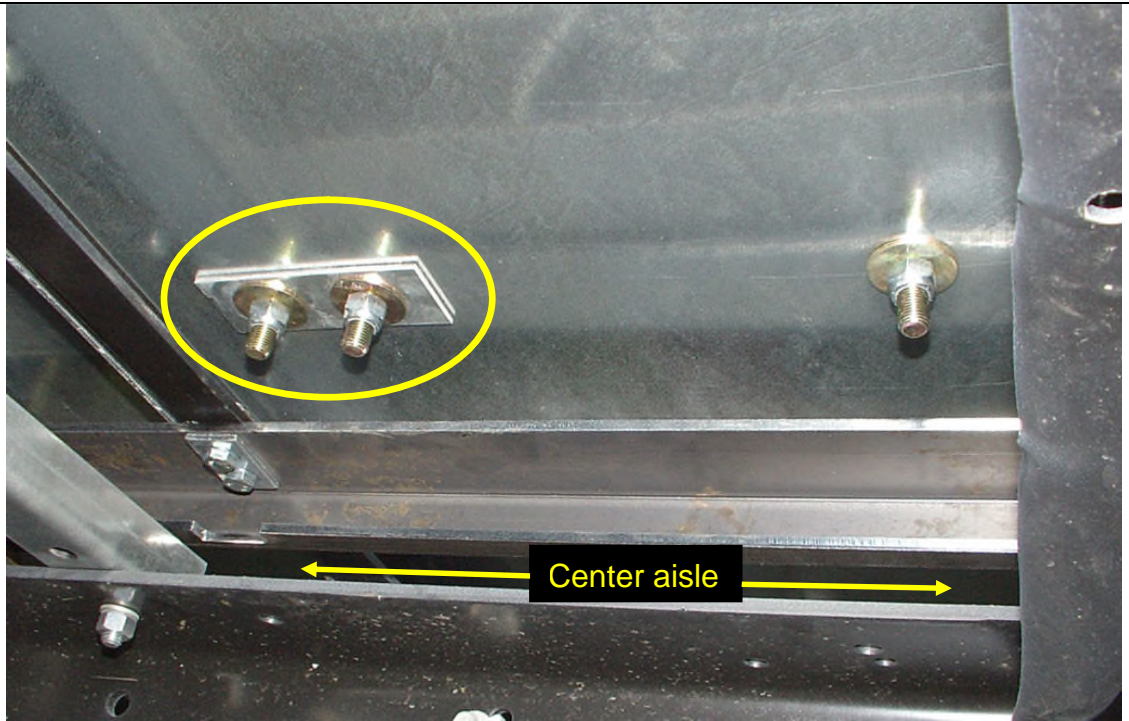

Figure 1: View from underside the floor – Rear bolts of a rigid seat
1. Find the two (2) rear mounting bolts of each rigid seat (figure 1) and remove the two nuts, flat washers and OEM bolting plate.